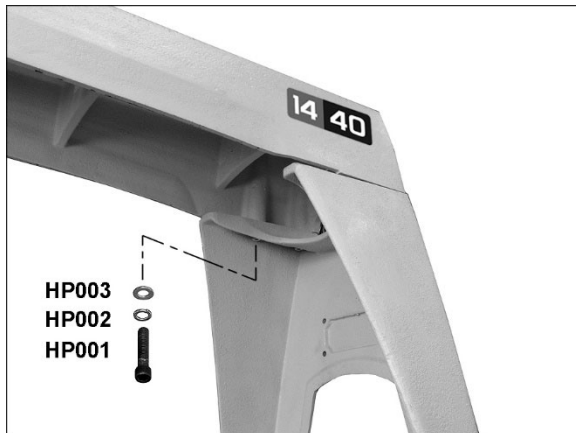

Figure 5: installing legs
2. Position lathe onto legs and secure with screws and washers (HP001/2/3, Figure 5) using 6mm hex key.
4. Install legs with screws and washers (HP001/2/3, Figure 5) using 6mm hex key. Tighten screws firmly.